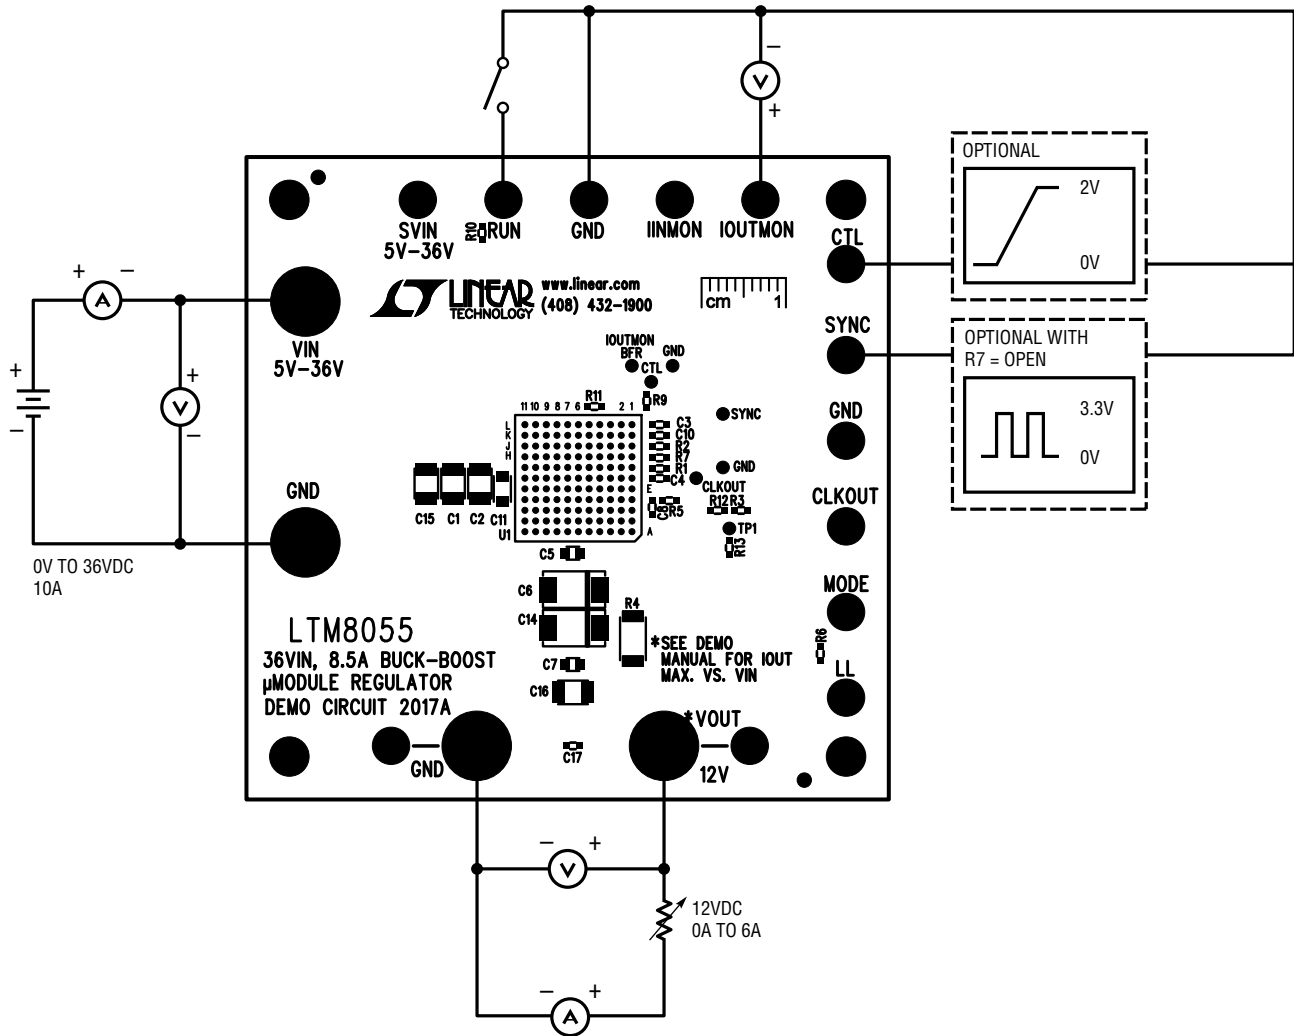
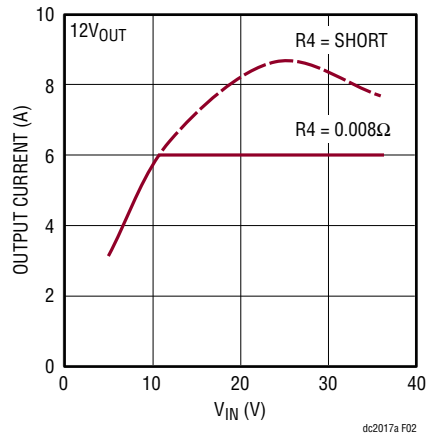

Figure 1. Proper Measurement Equipment Setup
Figure 2. Maximum Output Current vs Input Voltage for V_{OUT} = 12V
To use DC2017A to evaluate the performance of the LTM8055, refer to Figure 1 for the proper measurement equipment setup, Figure 2 for the maximum output current versus input voltage and then follow the procedure below:
1. Connect the RUN terminal to ground with a clip-on lead. Connect the power supply (with power off), load, and meters as shown in Figure 1.